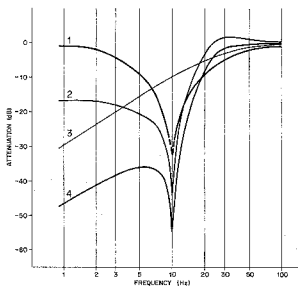
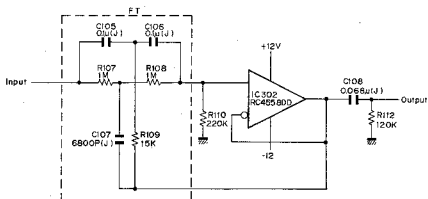

Fig. 2.10
Fig. 2.9 Subsonic Filter Circuit
Fig. 2.9 shows the subsonic filter of the High-Com II. The portion represented by FT is generally known as a twin T filter. Its characteristics are illustrated in Fig. 2.10 (1). As shown, the curve of the twin T filter rapidly drops at 20 to 50 Hz, and attenuation at below 5 Hz is rather small. These demerits have been smartly eliminated by the High-Com II as follows:
As shown in Fig. 2.9, the output from the twin T filter is amplified by OP-amp. IC302 and taken from its output terminal. This output provides positive feedback to the non-inverting input of IC302 through C107 and R109. This greatly reduces the level down in the range 20 to 50 Hz. For greater attenuation in the range below 5 Hz, R110 is added to lower the load impedance of the filter and to change the impedance of each element so that the asymmetric curve as shown by Fig. 2.10 (2) can be achieved.
The curve shown in Fig. 2.10 (2) is satisfactory for the subsonic filter except insufficient attenuation at below 5 Hz.
Besides the High-Com II uses a CR filter consisting of C108 and R112 to achieve a more ideal subsonic filter curve as shown by Fig. 2.10 (4). (In Fig. 2.10 (3) shows the CR filter curve and (4) is a combination of curves (2) and (3).)